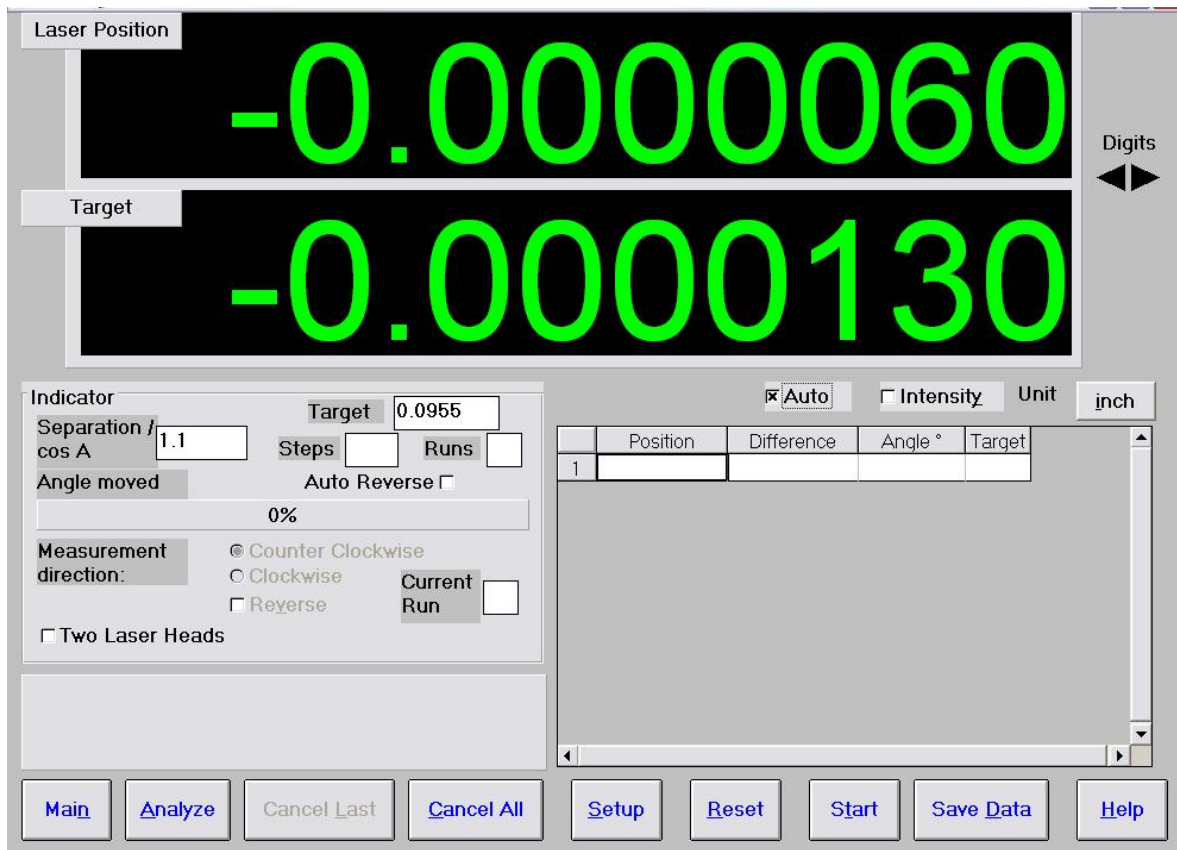

Fig. 8-1 Rotary Table Measurement Main Display
8.1 Rotary Table Measurement Main Display (Fig. 8-1)